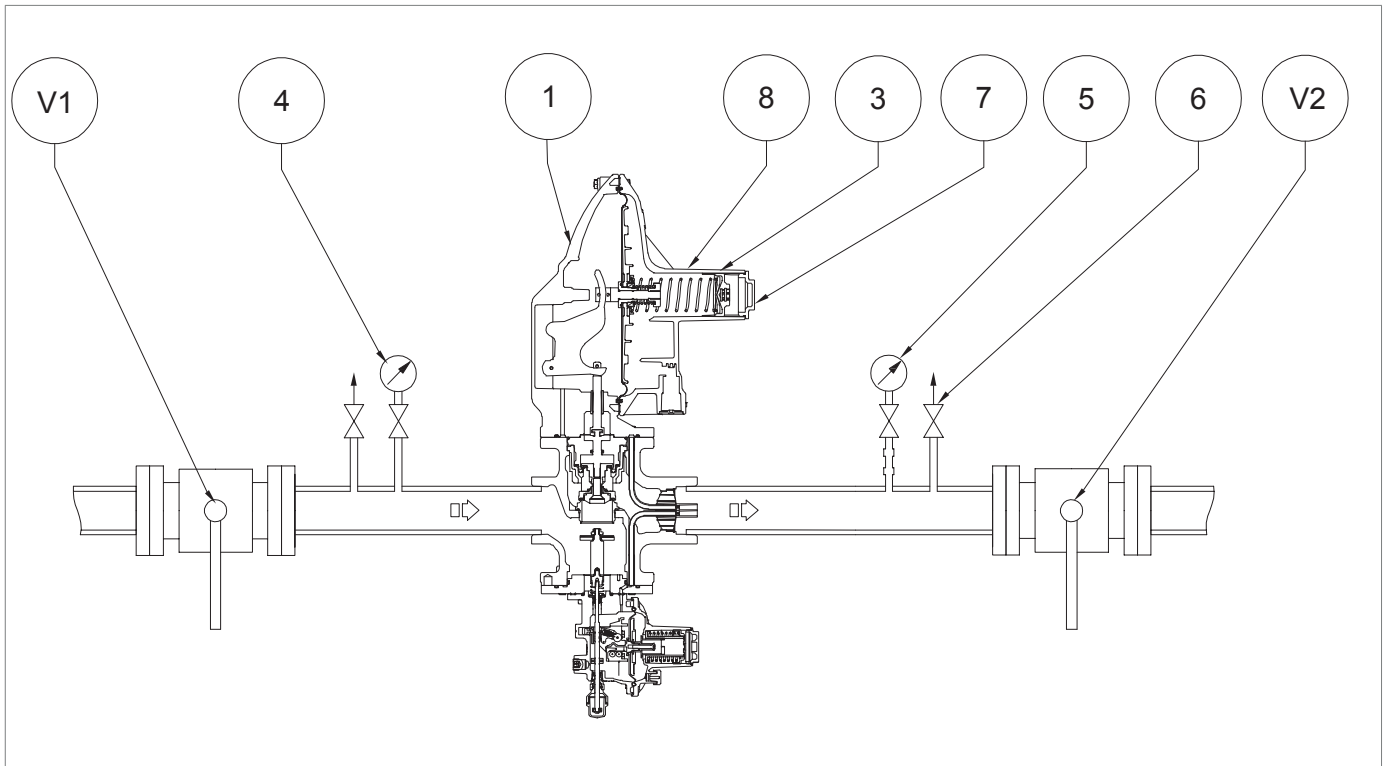

Fig. 8.24. Commissioning of the CIRVAL regulator with LA slam-shut valve
3	<p>In case the required minimum pressure value is not reached by intervention of the minimum block, remove the adjustment ring nut (fig. 8.20, ref. 3) and remove the adjustment spring (fig. 8.24, ref. 8).</p> <p>NOTICE</p> <p>Check the value of the slam-shut valve tripping pressure indicated by the downstream pressure gauge (fig. 8.20, ref. 5).</p>
5	<p>After verifying that the slam-shut valve trips at the preset value, act as follows:</p> <ol style="list-style-type: none"> 1. Close the air vent valve (fig. 8.20, ref. 6) 2. Position the adjustment spring (fig. 8.24, ref. 8), the end cap (fig. 8.24, ref. 7), adjusting screw (fig. 8.20, ref. 3) 3. Slowly open the upstream shut-off valve (V1) until the downstream pressure value (Pd) reaches the regulator's set value, referring to the downstream pressure gauge (fig. 8.20, ref. 5) 4. Close the upstream shut-off valve (V1) 5. Slowly and partially open the air vent valve (fig. 8.20, ref. 6) to decrease the downstream pressure by referring to the downstream pressure gauge (fig. 8.20, ref. 5) until the minimum pressure trip value is reached 6. Verify the correct calibration of the minimum spring by repeating steps 3-4-5 at least three times 7. Perform calibration of the main regulator referring to par. 8.5